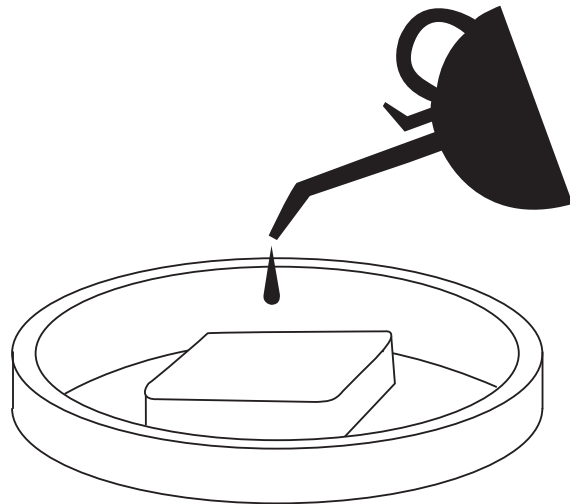

Figure 7-11
- Once the air filters are dry, coat the air filters with clean engine oil (see Figure 7-11).